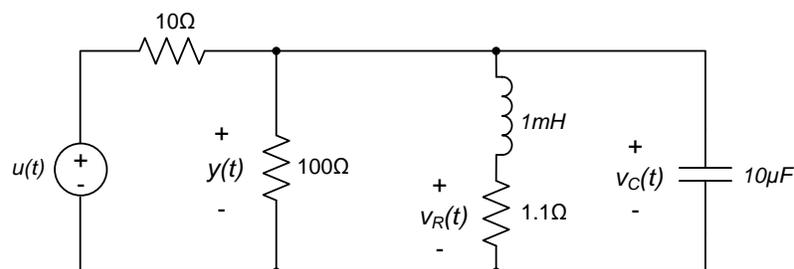

Figure 2. Schematic indicating measured voltages.
c. Set up the oscilloscope to measure the voltage across the capacitor and the current through the inductor. To do this, we will refer to the circuit schematic shown in Fig. 2 below. The capacitor voltage measurement is simple – simply use one of the oscilloscope channels (say, channel 1) to measure $v_C(t)$ indicated on Fig. 2.